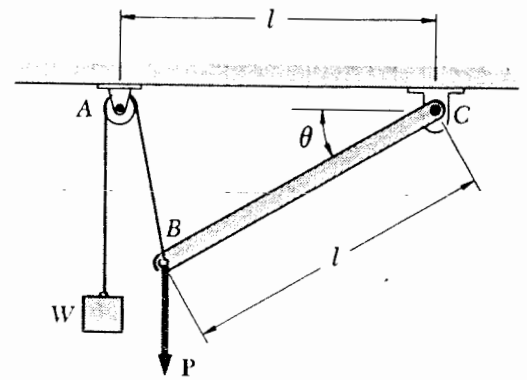

Fig. P4
- 4) A vertical load **P** is applied at end B of rod BC as shown in Fig. P4.